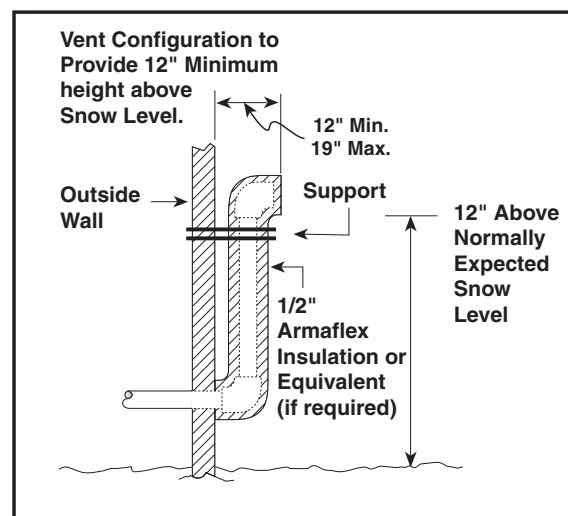

Figure 15. Alternate Horizontal Vent Installation
1. The termination must be 12 inches above snow level or grade level whichever is higher. See Figure 15 for alternate method to achieve 12" above snow level.
When the vent pipe must exit an exterior wall close to the grade or expected snow level, a riser should be provided as shown in Figures 15 and 16.